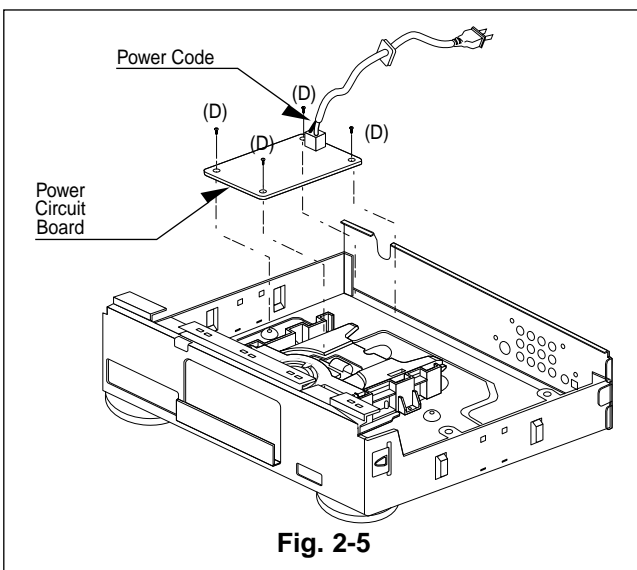

Fig. 2-5
1. Release 4 screws(D). (See Fig. 2-5)